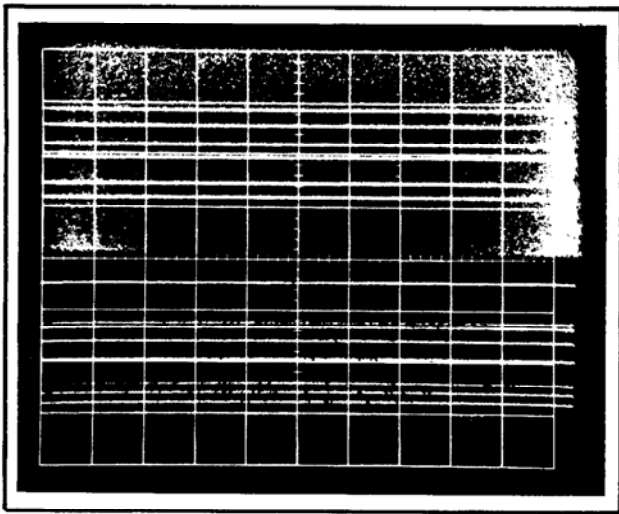

Fig. 5-25. Typical CRT display showing Upper Writing Limit on upper screen and Writing Threshold on lower screen.
after 10 seconds (see Fig. 5-25), note the voltmeter reading, then adjust the Op Level control to reduce the operating level by 5 volts.
3. Carefully check the stored lines and background for trace spreading of about 0.025 inches or background fade-up. See Fig. 5-25. If no trace spreading or background fade-up is evident after 10 seconds, adjust the Op Level control to increase the operating level by 5 volts.